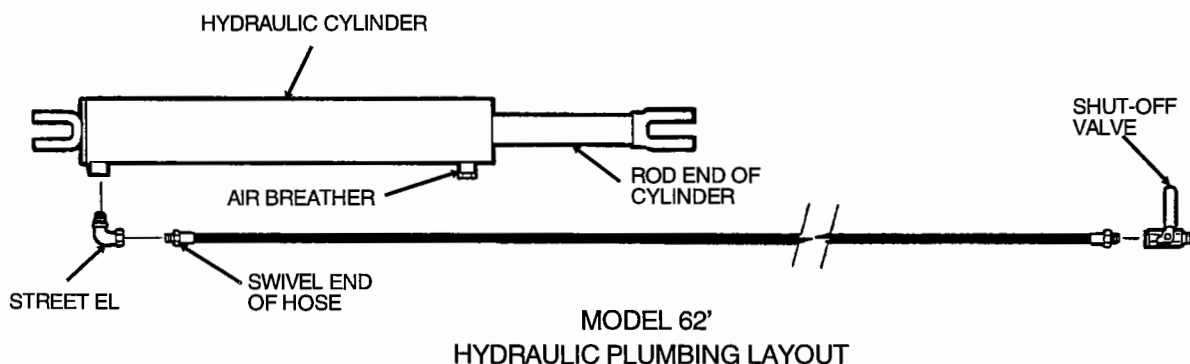

FIG. 50
1. Thread the heavy duty street el into the upper cylinder port (at the base). Tighten and leave street el parallel with the auger tube and pointed toward inlet. See Fig. 50.